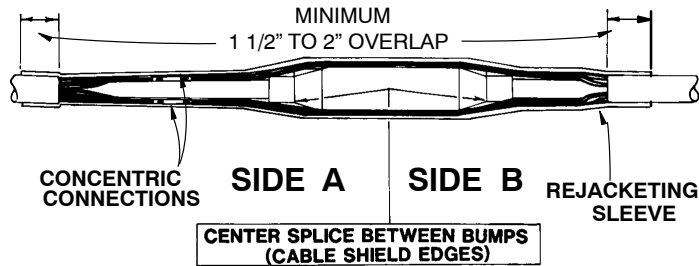

FIGURE 3
10. Lubricate insulation and semi-con shield of Cable B with silicone grease. Slide body onto Cable B and into final position over the connector. Use the bumps formed on the splice ends as guides for centering. See Figure 3.
11. Connect concentrics with two sleeves on Side A. For single phase cables place 5 wires per side into each sleeve. For three phase cables place all 6 wires into one sleeve. Crimp using the "P" or "J" groove of the XPJ Nicopress tool as shown on sleeve. Snug sleeves and wires tightly against splice and cable. See Figure 3.